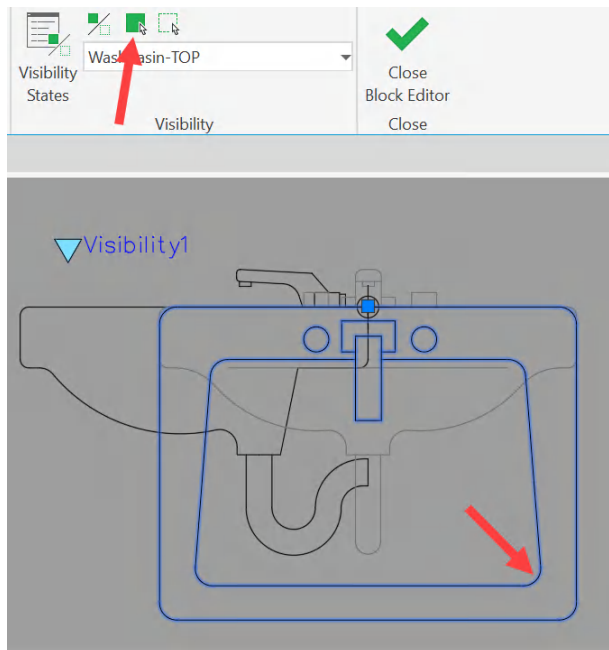

Figure 12.31: Setting the top view as visible
4. Check that the **Washbasin-TOP** state is current in the **Visibility** panel. Then, select the regular block showing the top view of the washbasin, as shown in *Figure 12.31*. Click on the green icon shown in *Figure 12.31* to make it visible in the current state.